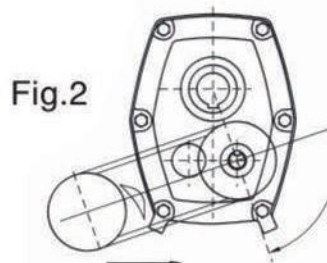

Fig.2
- 2、安装电机时，电机带轮和减速机的输入轴带轮中心的连线应该和减速机输出轴与输入轴中心的连线成大约90°关系（参考图2），这样可以用扭力臂拉紧皮带。如果输出轴是逆时针旋转，扭力臂最好被固定在减速机的右边（参考图3）。
2. Install motor and wedge belt drive with the belt pull at approximately 90° to the center line between driven and input shafts (see fig.2). This will permit tensioning of the wedge belt drive with the torque arm which should preferably be in tension. If output hub runs anti-clockwise, torque arm should be positioned the right (see fig.3).